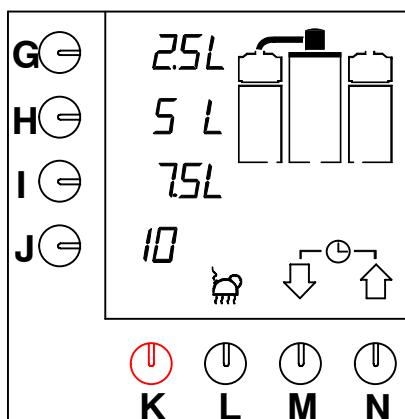

Fig. 7 Display with the default options
- The indicator lamp in the switch lights up. The default options appear in the display (fig. 7 ).